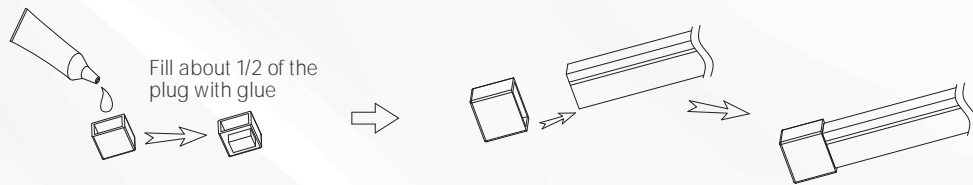

Figure 2
2. The plug will be filled with glue, and put the neon flex into the plug, the installation is complete, as shown in Figure 2.